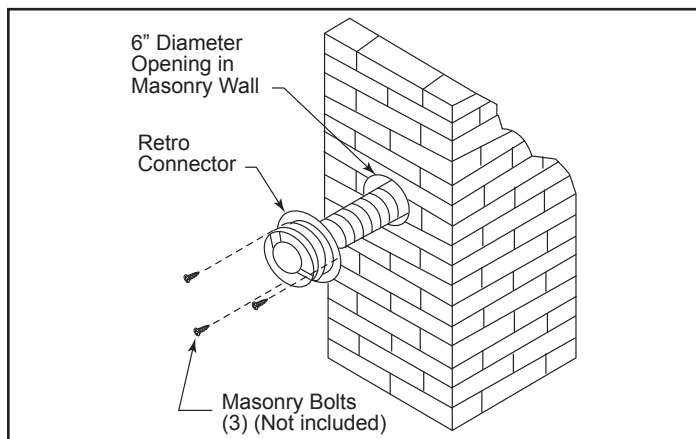

Figure 50
8. Attach the flex to the retro connector. Use three sheet metal screws to attach the flex liner to the connector, Figure 50. Mount the retro connector to the masonry wall using masonry bolts. Re-drill larger holes on connector as needed. Be careful to insure that the connector is centered in the opening and the mounting holes line up with the masonry wall.